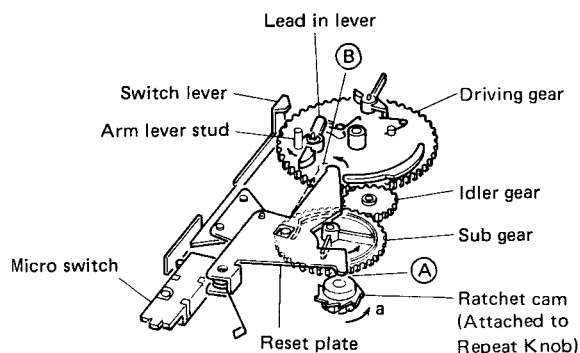

Fig. 15
As shown in Fig. 15, when the ratchet cam is turned in the direction of arrow (a) (toward the position "R" on the REPEAT knob), the part (A) of the reset plate is pushed away by the outer circumference of the ratchet cam until its part (B) is moved as far as the dotted line. Thus, the lead-in lever on the driving gear is always returned by the reset plate and pushes the arm lever stud back to bring the arm lever to the lead-in position, and the record is played again. At the "R" position the hook on the sub gear passes over the toothless section of the ratchet cam, so the cam does not turn.
Thus the cam turns one step for each cycle. After completion of the specified number of cycles the ratchet cam and hook do not engage, and the reset plate returns to the position as shown in Fig. 15. As a result, the lead-in position. The tonearm is returned to the arm rest, and the power is turned off when the switch plate presses the micro switch.